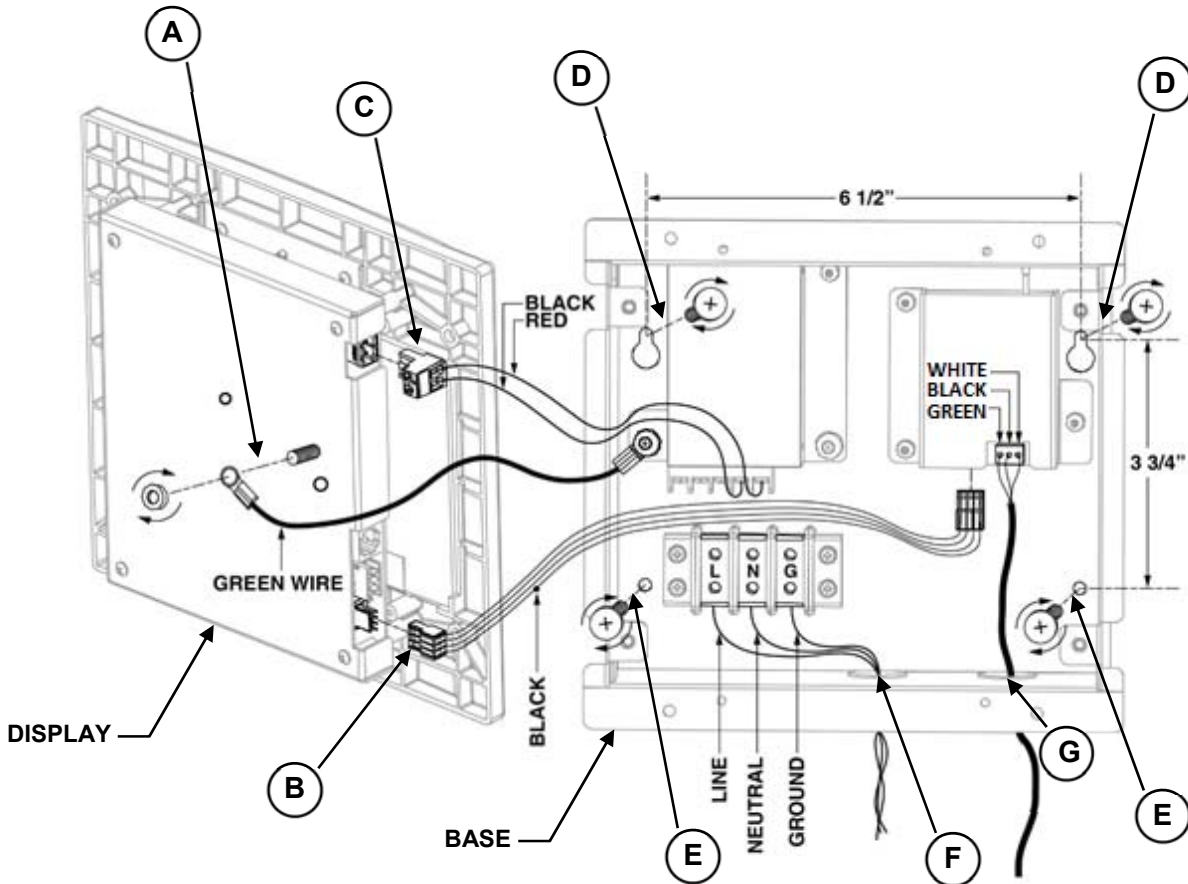

Figure 1.0
3. Disconnect the green wire (A) by loosening and removing the #10-32 nut and lock washer from the display shield.
4. Unplug connectors (B) and (C) to separate the display from the base.
5. Measure base mounting dimensions and fasten supplied wall anchors. Install screws for top two mounting holes (D) leaving a minimum of ¼ inch of thread exposed.
6. Mount the base onto top two screws (D) then tighten and secure.
7. Fasten two bottom screws (E) in base mounting holes and secure.
8. Bring power wires (100-240 VAC) through left preformed knockout (F) and secure on the terminal block as shown.
9. Bring low voltage RS-485 cable (**EC-4 or 4 conductor 22 AWG twisted pair with shield**) through the right preformed knockout (**G**) and secure to terminal block (See Figure 1.0).